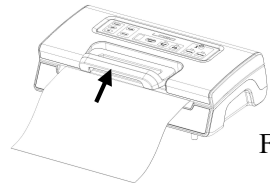

Fig.8
8. Press the handle to open the lid and take the bag out of the machine. The bag is then done and is ready for vacuum sealing - **Fig.8**